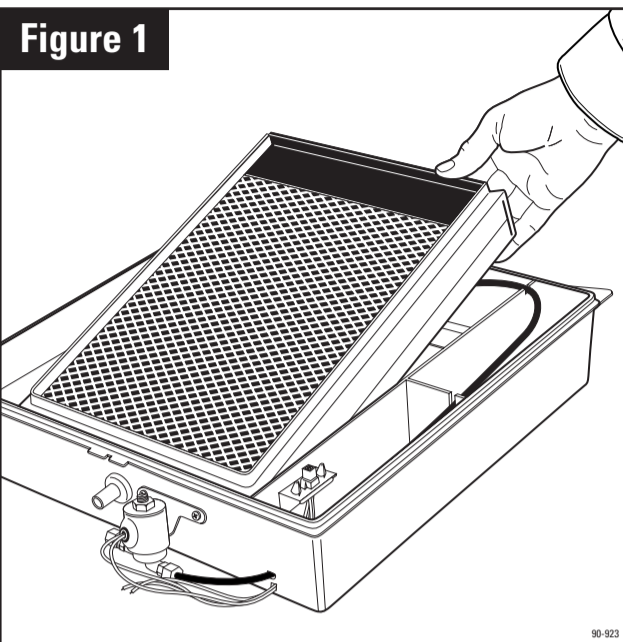

Figure 1
1. Place the humidifier on a flat surface. Unlatch humidifier cover assembly from base assembly at the bottom of the cover, lift and set aside. Pull out the Water Panel® evaporator assembly by grasping at the top and tipping out. (See Figure 1)